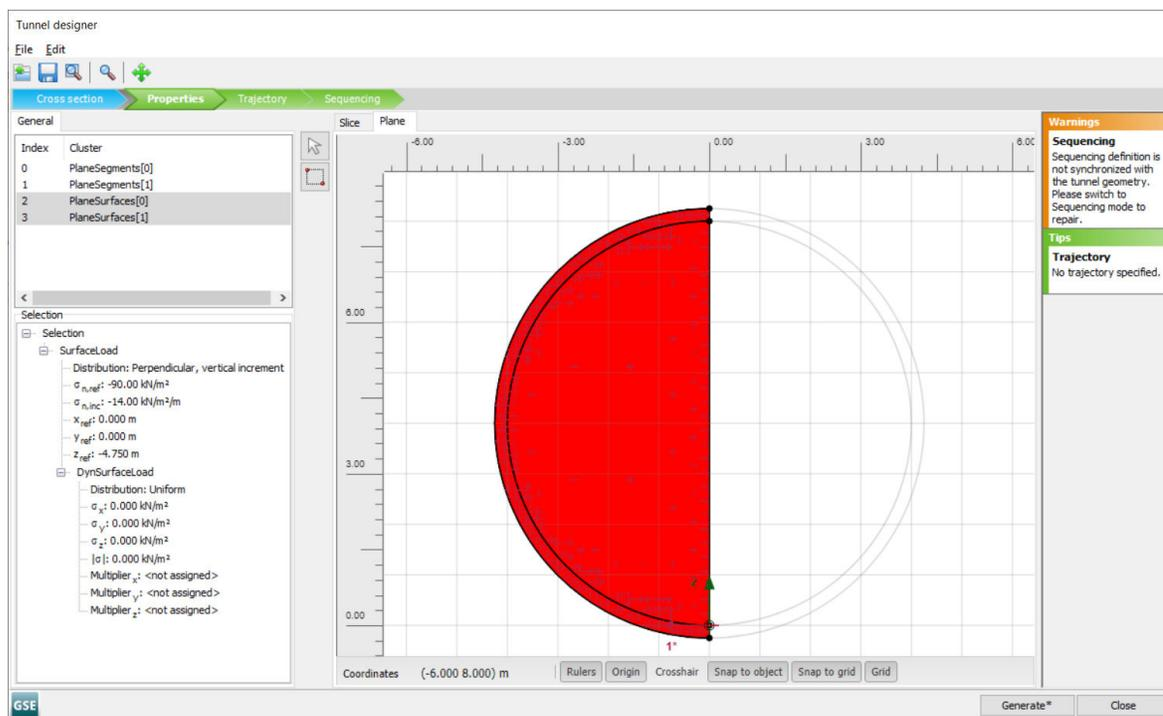

Figure 66: Plane tabsheet in the *Tunnel designer*
4. Set the $\sigma_{n,ref}$ to -90 and $\sigma_{n,inc}$ to -14 and define (0 0 -4.75) as the reference point for the load by assigning the values to x_{ref} , y_{ref} and z_{ref} (Figure 66 (on page 92)).